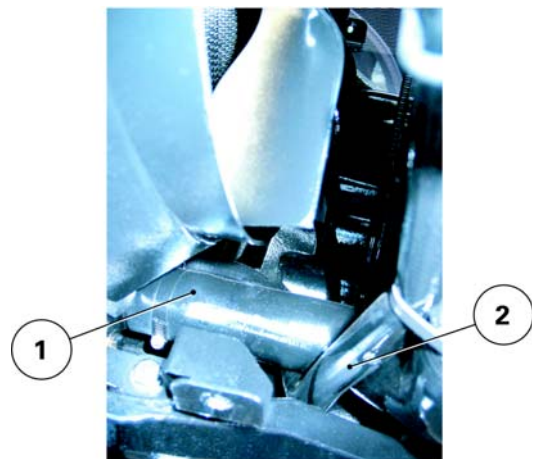

Fig. 6
14. Disconnect the lower radiator hose (1) and the hose (2) linking the expansion tank to the base of the radiator (Fig. 6).